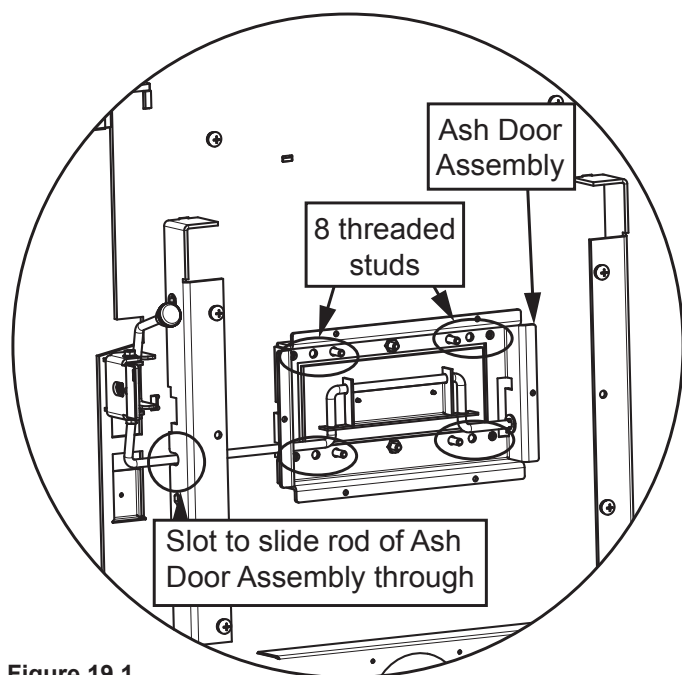

Figure 19.1
9. Install ARS latch by sliding latch assembly over 2 threaded studs protruding from the bottom on the left hand side of the appliance. Secure by using two nuts use 7/16 socket wrench (**Figure 19.1 on page 19**).
2. Slide pedestal over adapter on bottom of appliance and secure with four screws using Phillips head screwdriver (Figure 19.1 on page 19).